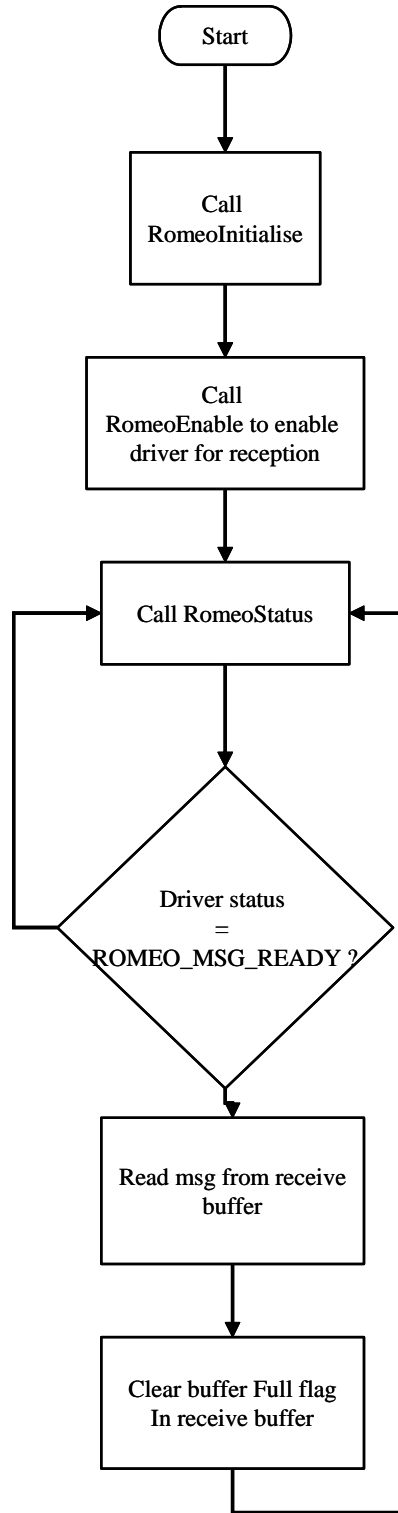

Figure 19. Configuring the Driver to Receive Messages
**Figure 19** shows a flowchart for configuring the driver to receive messages.